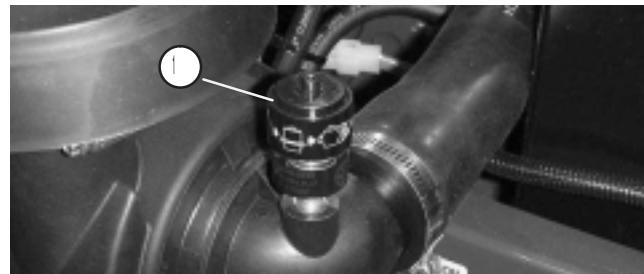

Figure 41
- Service the air cleaner filters when air cleaner indicator (Fig. 41) shows red or every 400 hours (more frequently in extreme dusty or dirty conditions). Do not over service air filter.
7. Reset indicator (Fig. 41) if showing red.